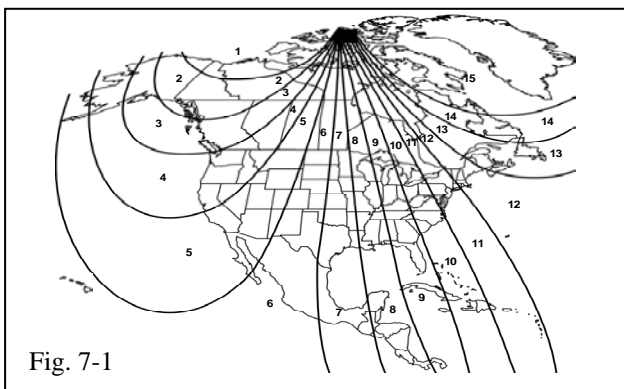

Fig. 7-1
- (b) Refer to the Zone Map and toggle button until correct zone is displayed. (Fig. 7-1)